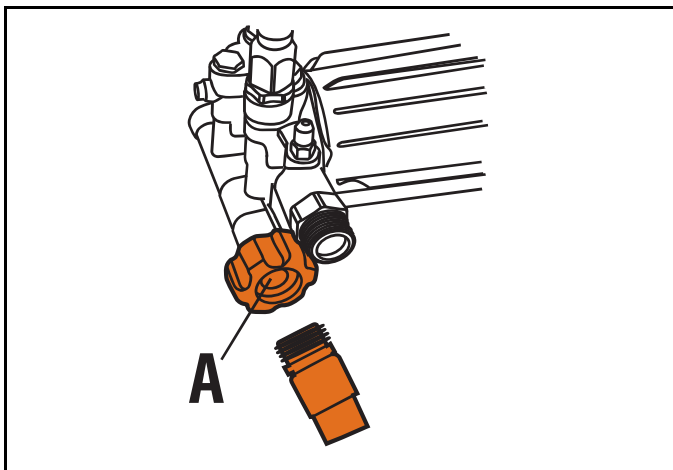

Figure 4-11. Inspect Inlet Screen
2. Before connecting garden hose to water inlet, inspect inlet screen (A) (Figure 4-11). Clean screen if it contains debris or have it replaced if damaged. DO NOT run power washer if inlet screen is damaged.